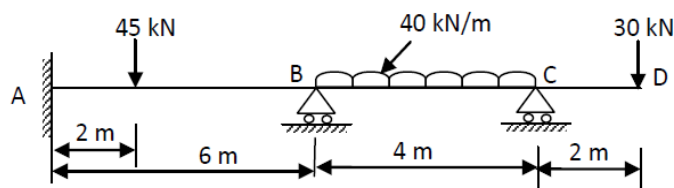

Figure 4.8
8. Analyze the continuous beam given in figure 4.8, by the stiffness method. Draw the bending moment diagram. Take $AB=2I, BC=CD=I$